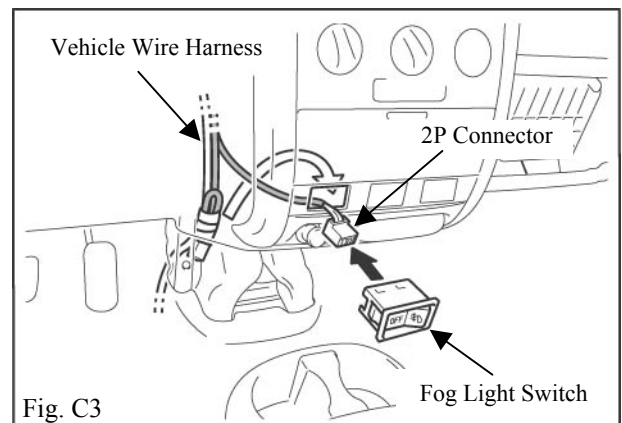

Fig. C3
4. Access the 2P connector through glove box opening. (Fig. C3)
- ➔ 5. Remove the 2P connector secured with vehicle wire harness as shown. (Fig. C3) Pull the 2P connector through opening.
- ➔ 7. Correctly orientate switch in hole. (Fig. C3)